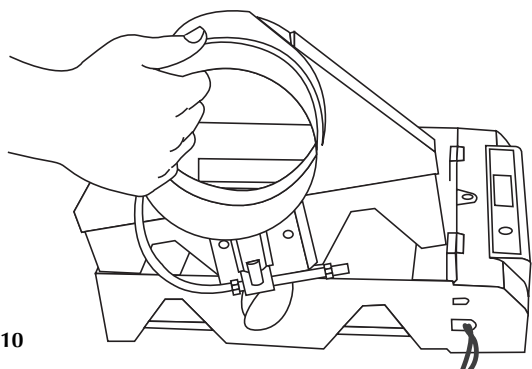

Figure 10
4. Lift the humidifier side out of the right hand position, turn the part and position it on the other side of the humidifier. (fig. 10)